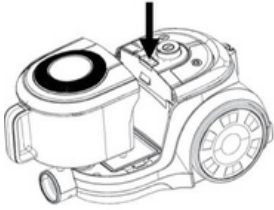

Fig 1
1. Press the button on the dust container handle. (Fig 1)